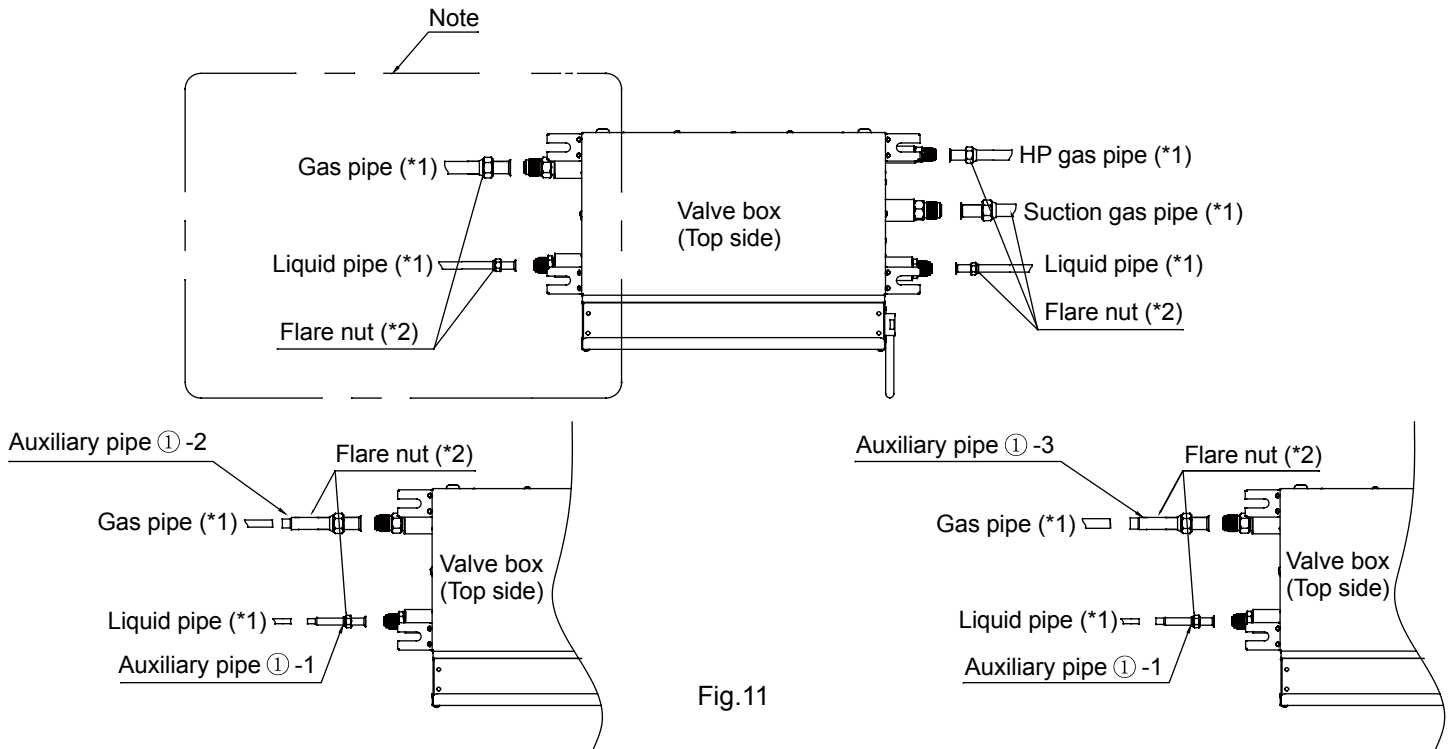

Fig.11
When a 072, 092, 22 or 28 indoor unit except for the High wall is connected in the downstream, please use the auxiliary pipe ①-1,2 for connection according to Fig.11.
When a 122, 162, 182, 36, 45 or 56 indoor unit except for the High wall is connected in the downstream, please use the auxiliary pipe ①-1,3 for connection according to Fig.11.
When a AS072, AS092, YVHVXH022, YVHVXH028 indoor unit is connected in the downstream, please use the auxiliary pipe ①-1,3 for connection according to Fig.11.